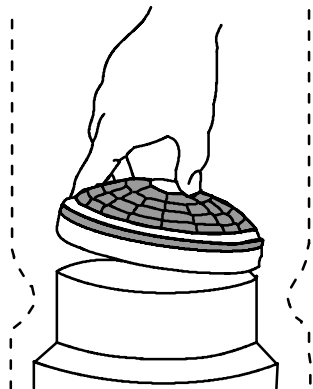

FIG. 1
1. Unlatch and remove the top cap and pull out the cloth filter. Check to see that the dome filter has not shifted during shipping (Figure 1).